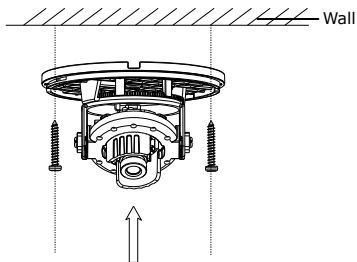

Figure 2-4 Install the Camera
6. Secure the camera with screws as shown in Figure 2-4.